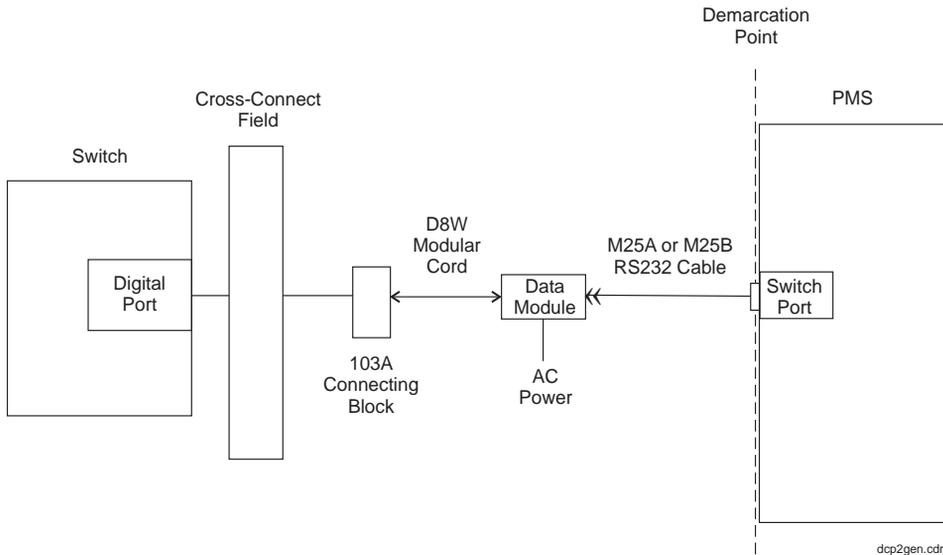

Figure 18. PMS Link Using a Data Module
Figure 18 shows the connection between the switch and the PMS.
5. Reconnect the unit as shown in Figure 18.
6. Reconnect the unit as shown in Figure 18.